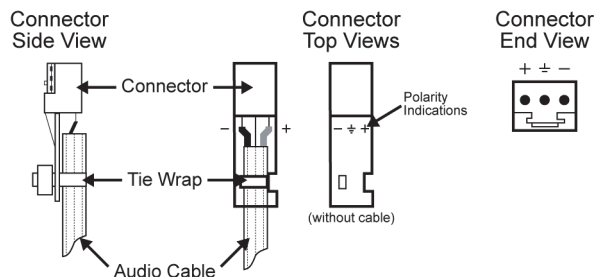

Figure 2.10 Connector Wiring for Rear Module Input Sockets
1. Insert an AES audio wire to the designated polarity slot on the connector of the rear module. (**Figure 2.10**)